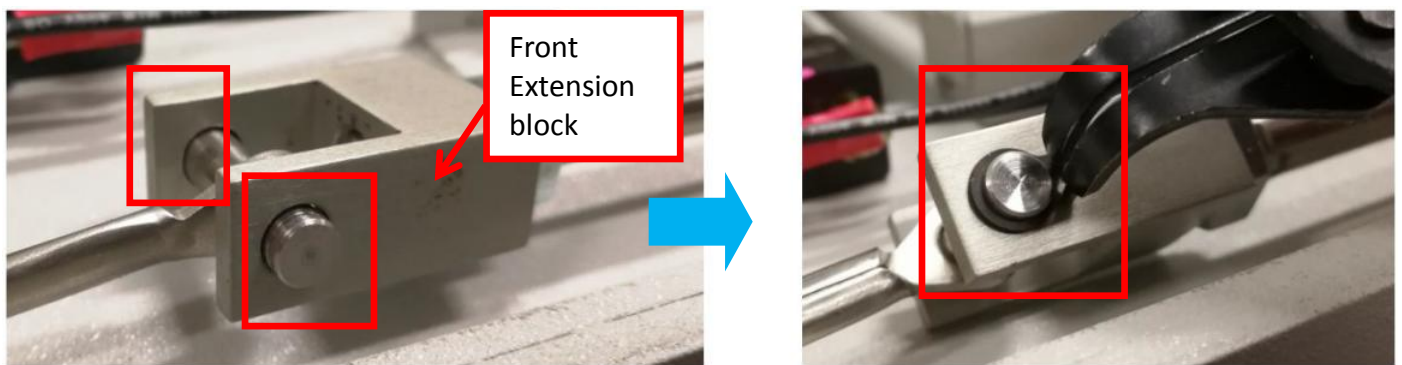

Figure 19
23. By using C-Clip Plier ,slot 2 x C-Clip at both side of dowel pin as Figure 19